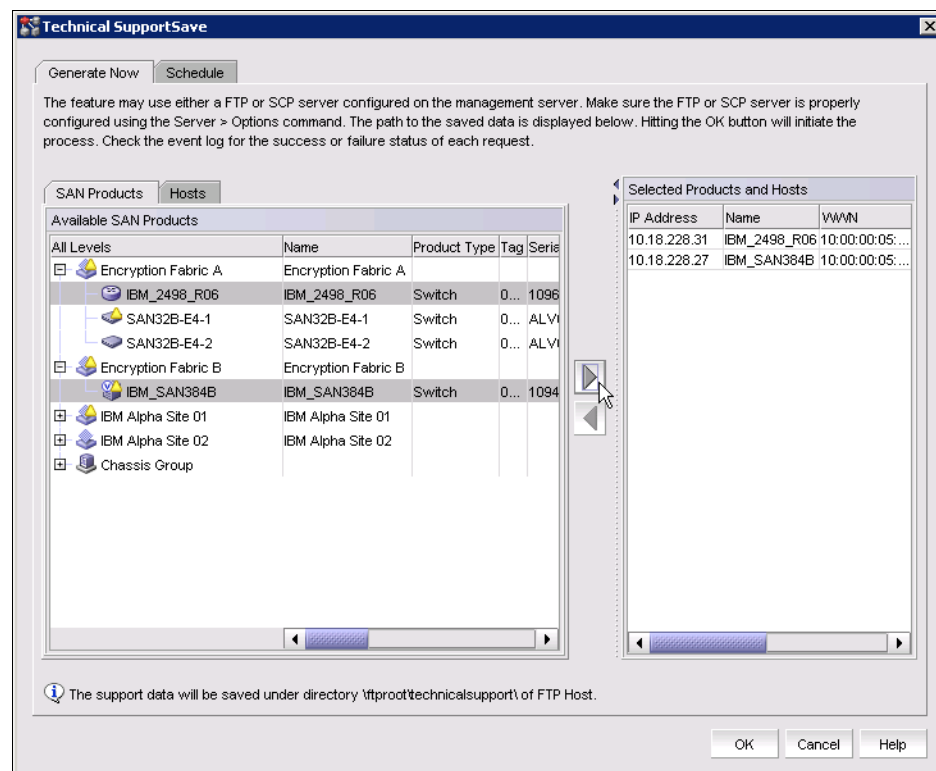

Figure 15-6 Technical SupportSave dialog box
2. In the Technical SupportSave dialog box (see Figure 15-6), select the switches that you want to collect data for in the Available SAN Products table. Click the right arrow to move them to the Selected Products and Hosts table. Then, click **OK**.